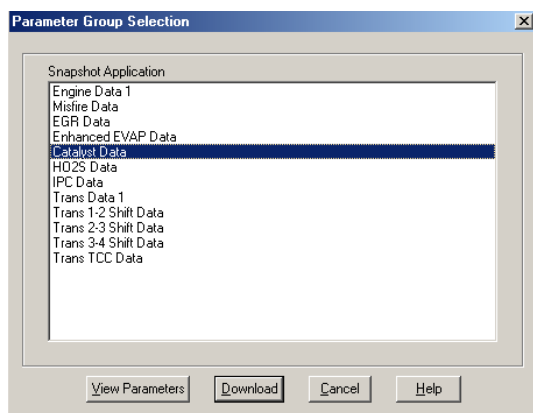

Figure 2.11: Parameter Group Selection Dialog Box
- 4 Click the **Finish** button to complete the vehicle selection. This displays the Parameter Group Selection dialog box (Figure 2.11).
- 5 In the Parameter Group Selection dialog box (Figure 2.11), determine which group of data you want to view and / or record for the vehicle. To see the parameters included within a group, click the name of the group, click the **View Parameters** button, view the list that appears, and then click the **Close** button.